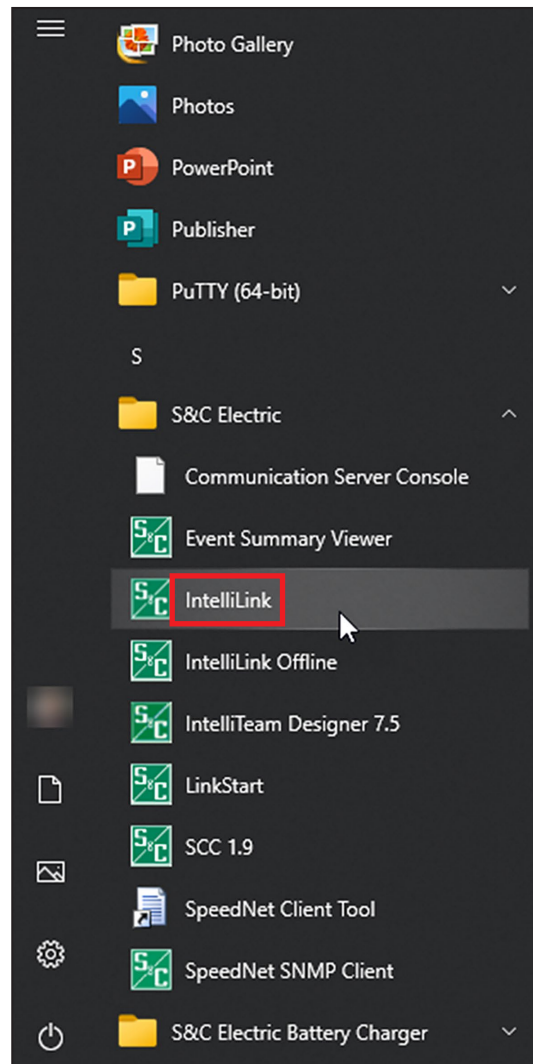

Figure 3. The Windows Start menu.
STEP 2. Open the S&C Electric folder and click on the **IntelliLink** icon. See Figure 3.